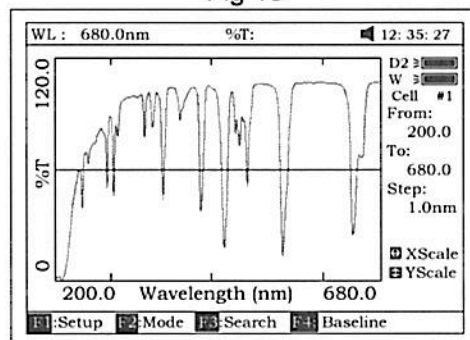

Fig 14
1. The key **【ENTER】** be pressed, the file selected will be loaded and displays on the screen. Fig 14.
**Note (1)** The file selected must match "WL scan" test's type. If not, the "file type error..." will appear on the Right of top line.
◇ Press the key **【SAVE】** in Fig14 to save curve.